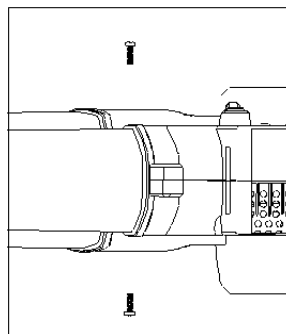

Fig. 6
5. Pull out two screws that in the manual bag from package, the user need to assemble fasten the screw (ST4 x 14) until they connect well. Refer to Fig. 6.